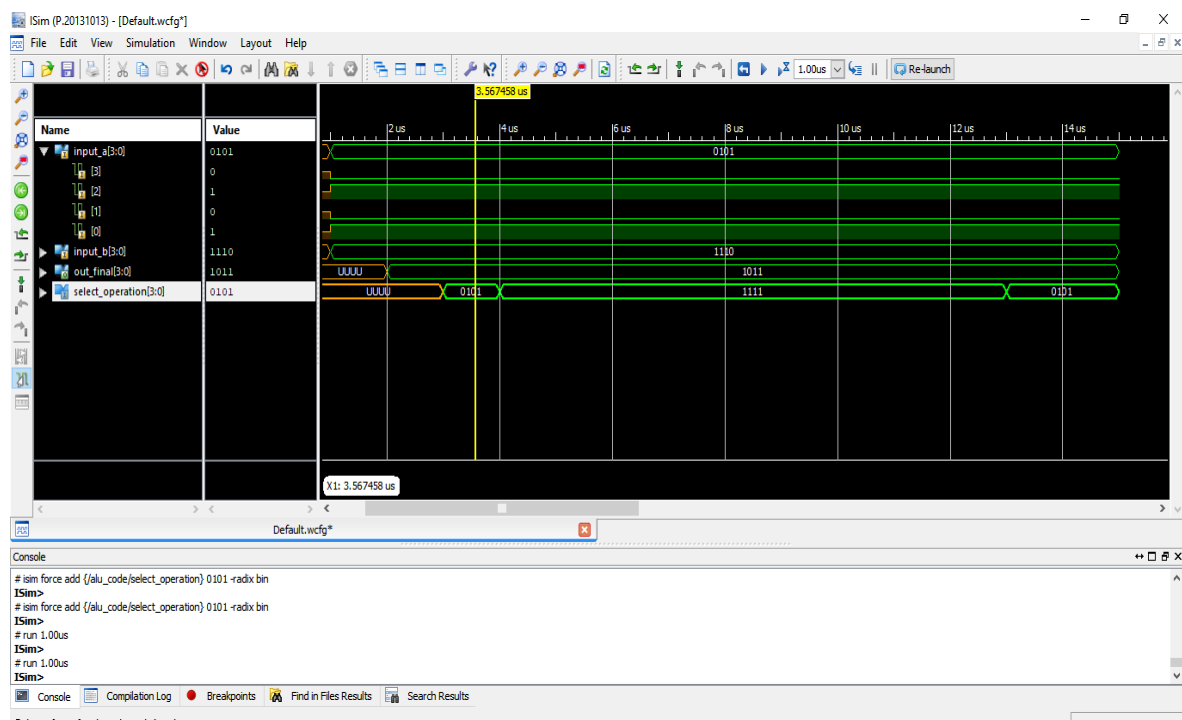

Fig. no. 17.7: Simulation diagram
4. Develop VHDL code for given problem and synthesize the .vhd file and view RTL schematic. Ref Fig no.17.7.